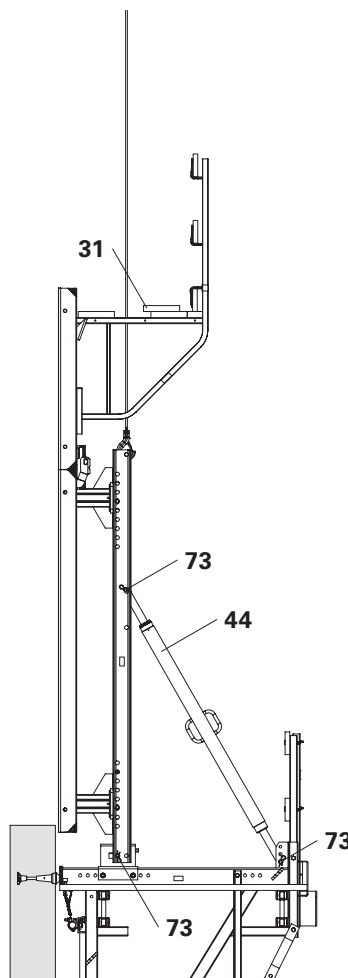
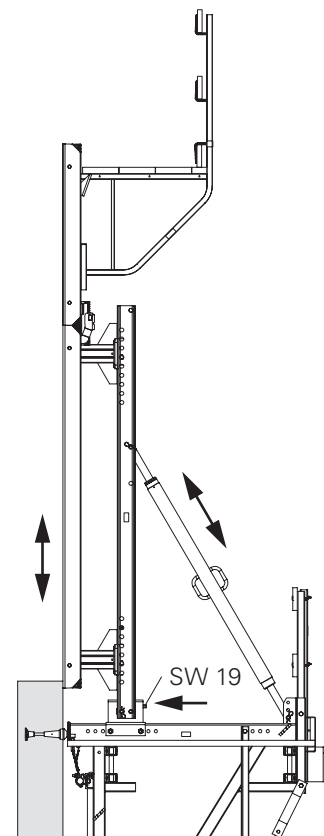

Fig. B2.17c
Fig. B2.17d
5. Fix Adjustable Brace CB 164-224 (44) to the bracket using Bolts  $\varnothing$  25 x1 80 (73) and Cotter Pins 4/1. Spindle out to approx. length and attach to Strongback CB (70). (Fig. B2.17c)
6. Detach lifting gear. Close decking (31) on the concreting platform.
7. Turn sliding block (16.2) of the Adjusting Unit CB with formwork to the wall, SW 19. (Fig. B2.17d)
8. Align formwork, see B3. (Fig. B2.17d)